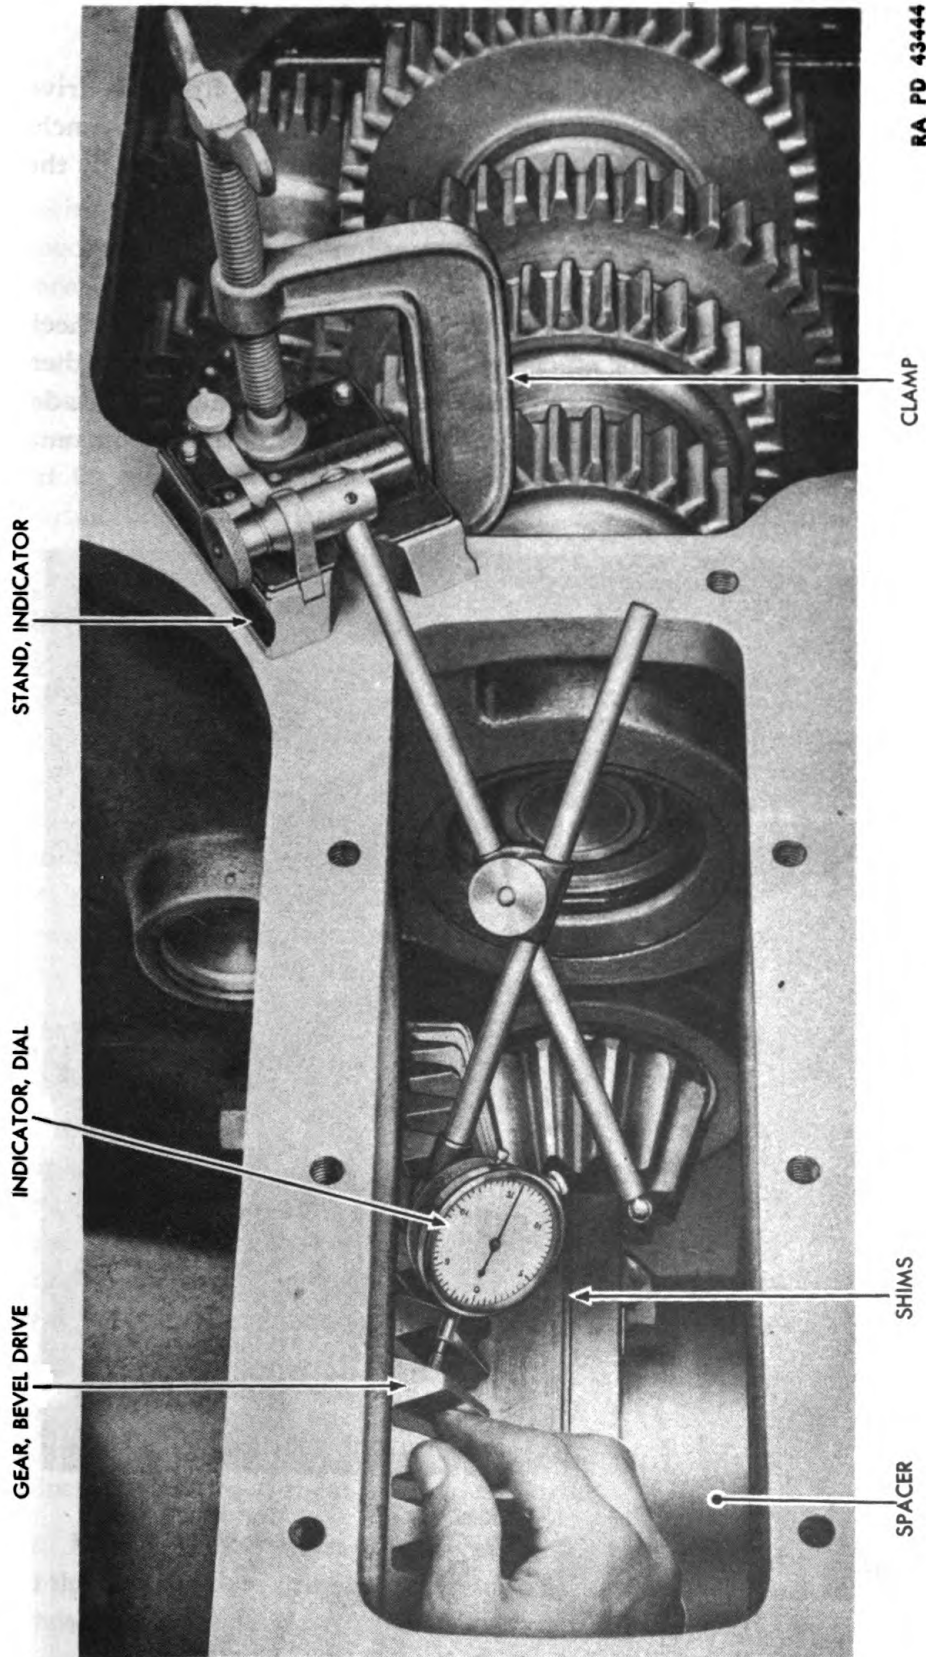

Figure 69 — Drive Bevel Gear Backlash Check
(4) **CHECK BACKLASH OF DRIVE BEVEL GEAR (fig. 69).**